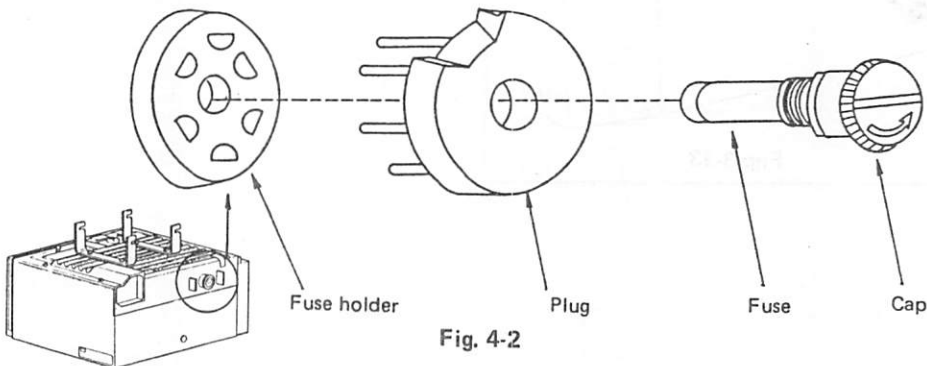

Fig. 4-2
- ① Turn the power OFF.
- ② Turn the fuse holder cap in Fig. 4-2 in the direction shown by the arrow, using a coin, then remove the cap. (Do not use a screw-driver to remove the cap. Use a coin.)
- ② Turn the fuse holder cap in Fig. 4-2 in the direction shown by the arrow, using a coin, then remove the cap. (Do not use a screwdriver to remove the cap. Use a coin.)
- ③ Unplug the plug shown in Fig. 4-2, change the play angle until the desired voltage indication becomes visible, then plug it back in.
- ④ Tighten the cap with a coin.